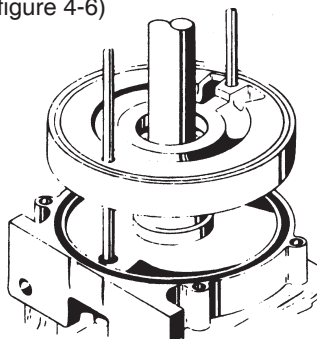

Figure 4-7
7. Place an "O" ring (#7) into the groove in the face of the cover (#1). Slide a left hand channel ring (#10) onto the guide rods with the water channel facing up. (refer to figure 4-7) With the pump feet in the "six o'clock" position, the large inlet opening should be at "eleven o'clock".